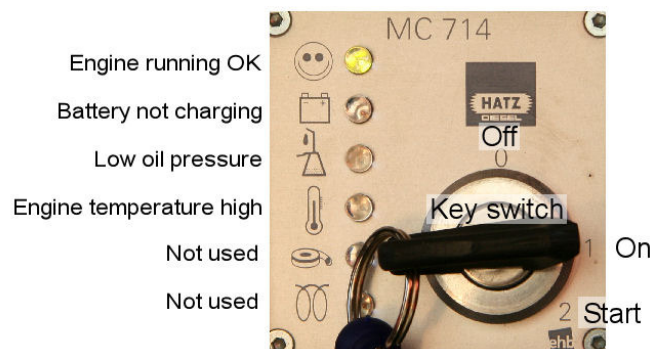

Fig 2-14 Ignition panel
3. Drive the earth spike (Fig 2-14) into the ground (earth) (follow any risk assessment). Check that the earth spike cable is securely attached to the unit.